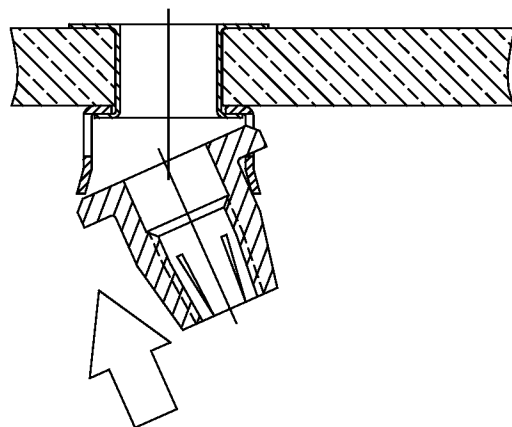

FIGURE 5
5. PLACE NUT BASE INTO WINDOW OF CAGE & SNAP INTO CAGE AS SHOWN IN FIGURE 5.